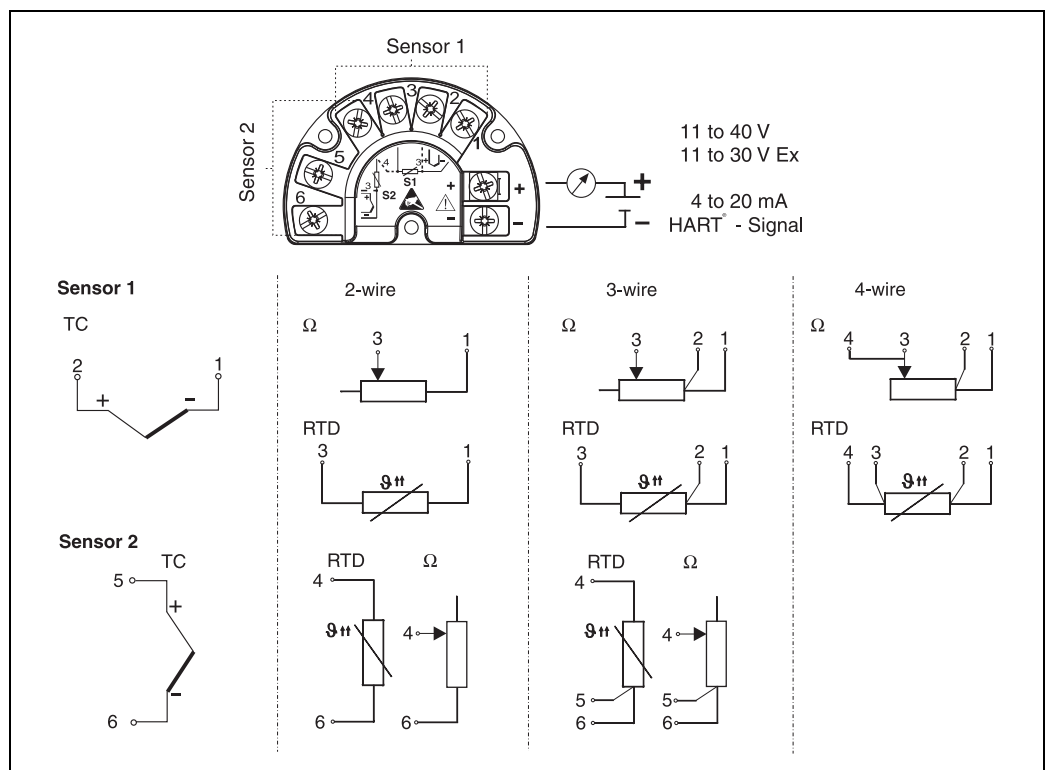

Fig. 5: Wiring the field transmitter
3. Connect the leads as shown in Fig. 5.